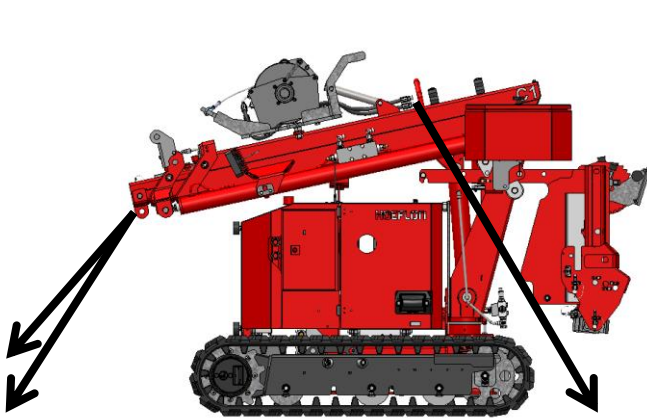
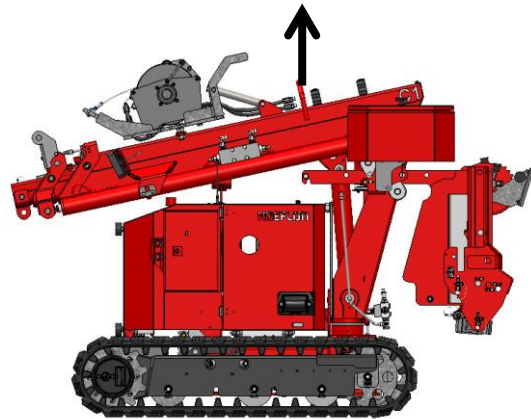

Figure: 56
Figure: 57
- Secure the machine by attaching four lashing straps to the machine. Attach two lashing straps to the eye at the bottom of the inner mast (see figure 56) and pull it towards the front (one to left front and one to right front). Attach the other two lashing straps to the eye at the top of the mast (see figure 57) and pull it towards the rear (one to left rear and one to right rear).
- Lift the compact crane using lifting straps or chain slings with a capacity of at least 2000 kg. Fasten these to the lifting point on the boom (see figure 57).